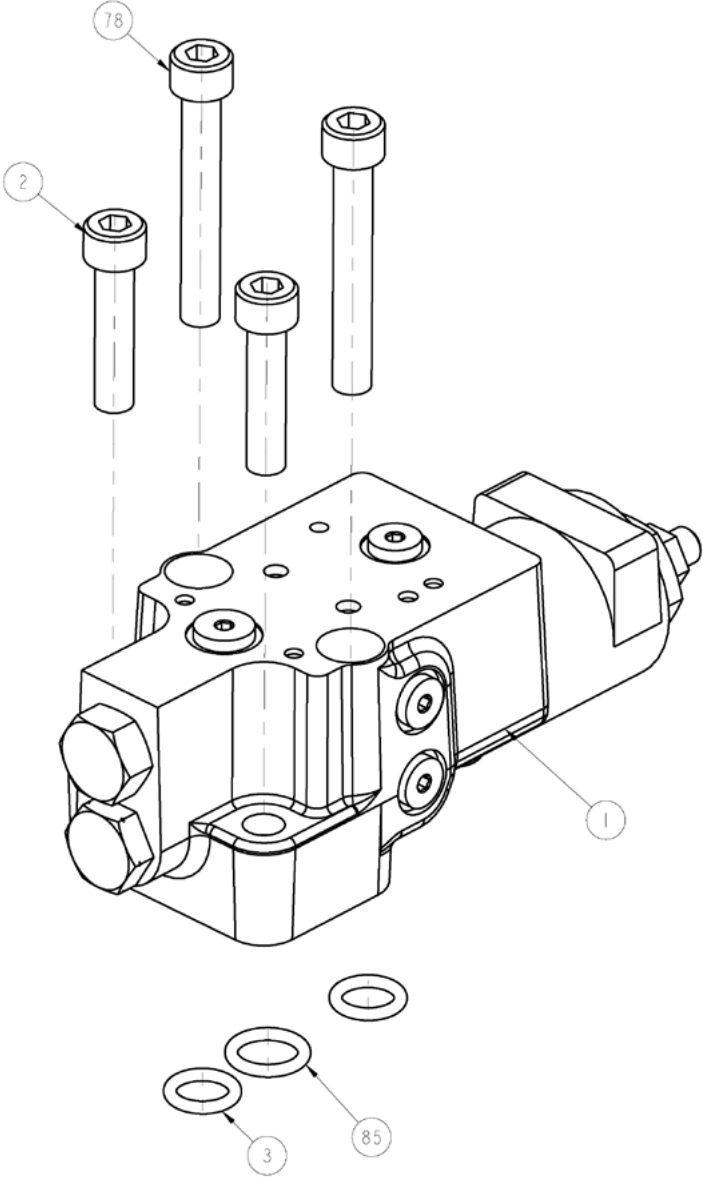

Figure 29
3. Remove the screw plug assembly (Figure 29, ⑰⑱).
4. Take out the compensator valve core (Figure 29, ②).
5. Remove the screw plug assembly (Figure 29, ⑤⑥⑦⑧), and take out the spring seat (Figure 29, ③), the compensator spring (Figure 29, ④) and the limit pin (Figure 29, ⑨).
6. Remove the screw plug assembly (Figure 29, ⑰⑱), and remove the damping plug (Figure 29, ⑫).
7. Remove the screw plug assembly (Figure 29, ⑭⑮), and remove the damping plug (Figure 29, ⑬).
8. Remove the screw plug assembly (Figure 29, ⑩⑪).
1. Install the compensator valve core (Figure 29, ②).
2. Install the screw plug assembly (Figure 29, ⑰⑱), and tighten the screw plug with a torque of 29-32 Nm.
3. Install the spring seat (Figure 29, ③), the compensator spring (Figure 29, ④) and the limit pin (Figure 29, ⑨).
4. Install the screw plug assembly (Figure 29, ⑤⑥⑦⑧), and tighten the screw plug with a torque of 75-83 Nm.
5. Install the damping plug (Figure 29, ⑫), and tighten it with a torque of 1.7-2.3 Nm.
6. Install the screw plug assembly (Figure 29, ⑰⑱), and tighten the screw plug with a torque of 29-32 Nm.
7. Install the damping plug (Figure 29, ⑬), and tighten it with a torque of 5.1-5.9 Nm.
8. Install the screw plug assembly (Figure 29, ⑭⑮), and tighten the screw plug with a torque of 12.1-12.4 Nm.
9. Install the screw plug assembly (Figure 29, ⑩⑪), and tighten the screw plug with a torque of 9.8-10.2 Nm.